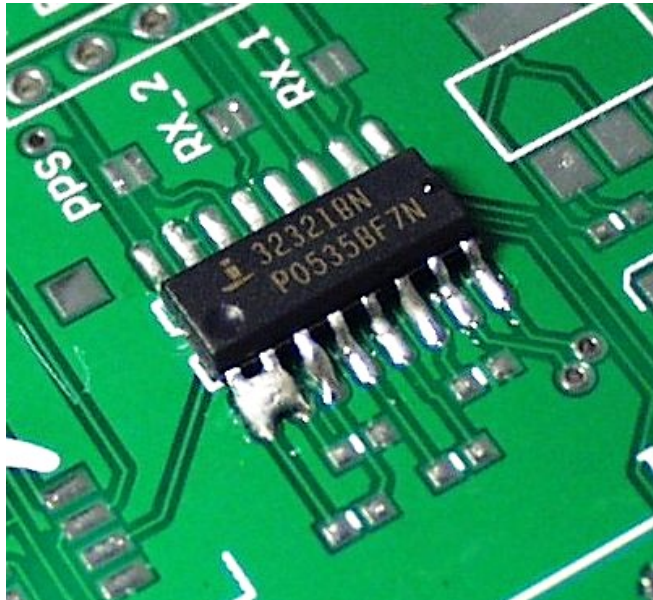

Figure 9. Notice the solder bridge between the two pins of the op amp. **DON'T DO THIS.**
3. **When soldering the 8-pin operational amplifiers** (MCP6002 and AD8226), there are images (Figure 8 and Figure 9) a few pages below that help you orient the op amp on the PCB correctly. Yes, the images were originally made for the LM358; however, the general principles from the images still hold for the 8-pin op amps you'll use in Ninetales.
5. When soldering the 8-pin operational amplifiers, please consult Figure 8 and Figure 9 a few pages below.
If you have any "solder bridges" (Figure 9) (connecting two pins together accidentally) between the pins of your op amp, please add more flux, then apply heat. That can often remove the bridges. If that doesn't work, try using desoldering wick. Place the wick on top of the solder bridge. Then apply the soldering iron on top of the wick. Wait for 5-10 seconds. It's often helpful to have the soldering iron at slightly higher temperature (maybe an additional 50 °F) since the heat now must transfer from the iron to the wick, and then to the pin and pad.